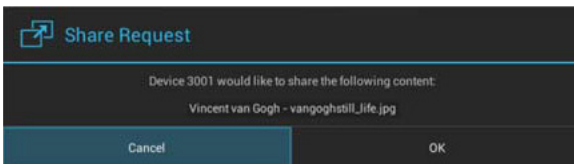

**FIG. 149** G5 panel - Receiver Selection
1. If there are multiple Enzo units configured to use Content Sharing with the G5 panel, then a list of Enzo units is displayed to select from, in the *Receiver Selection* window (FIG. 149).